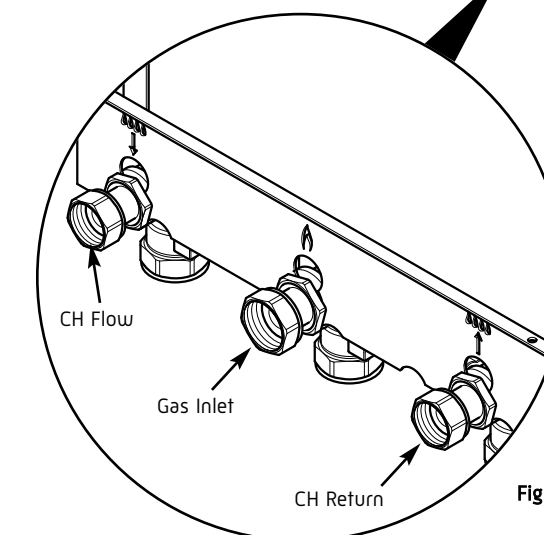

Fig. 40
1. Ensure the gas service cock on the boiler is turned on (Fig. 40). The entire gas installation must be tested for gas tightness and purged in accordance with BS6891.